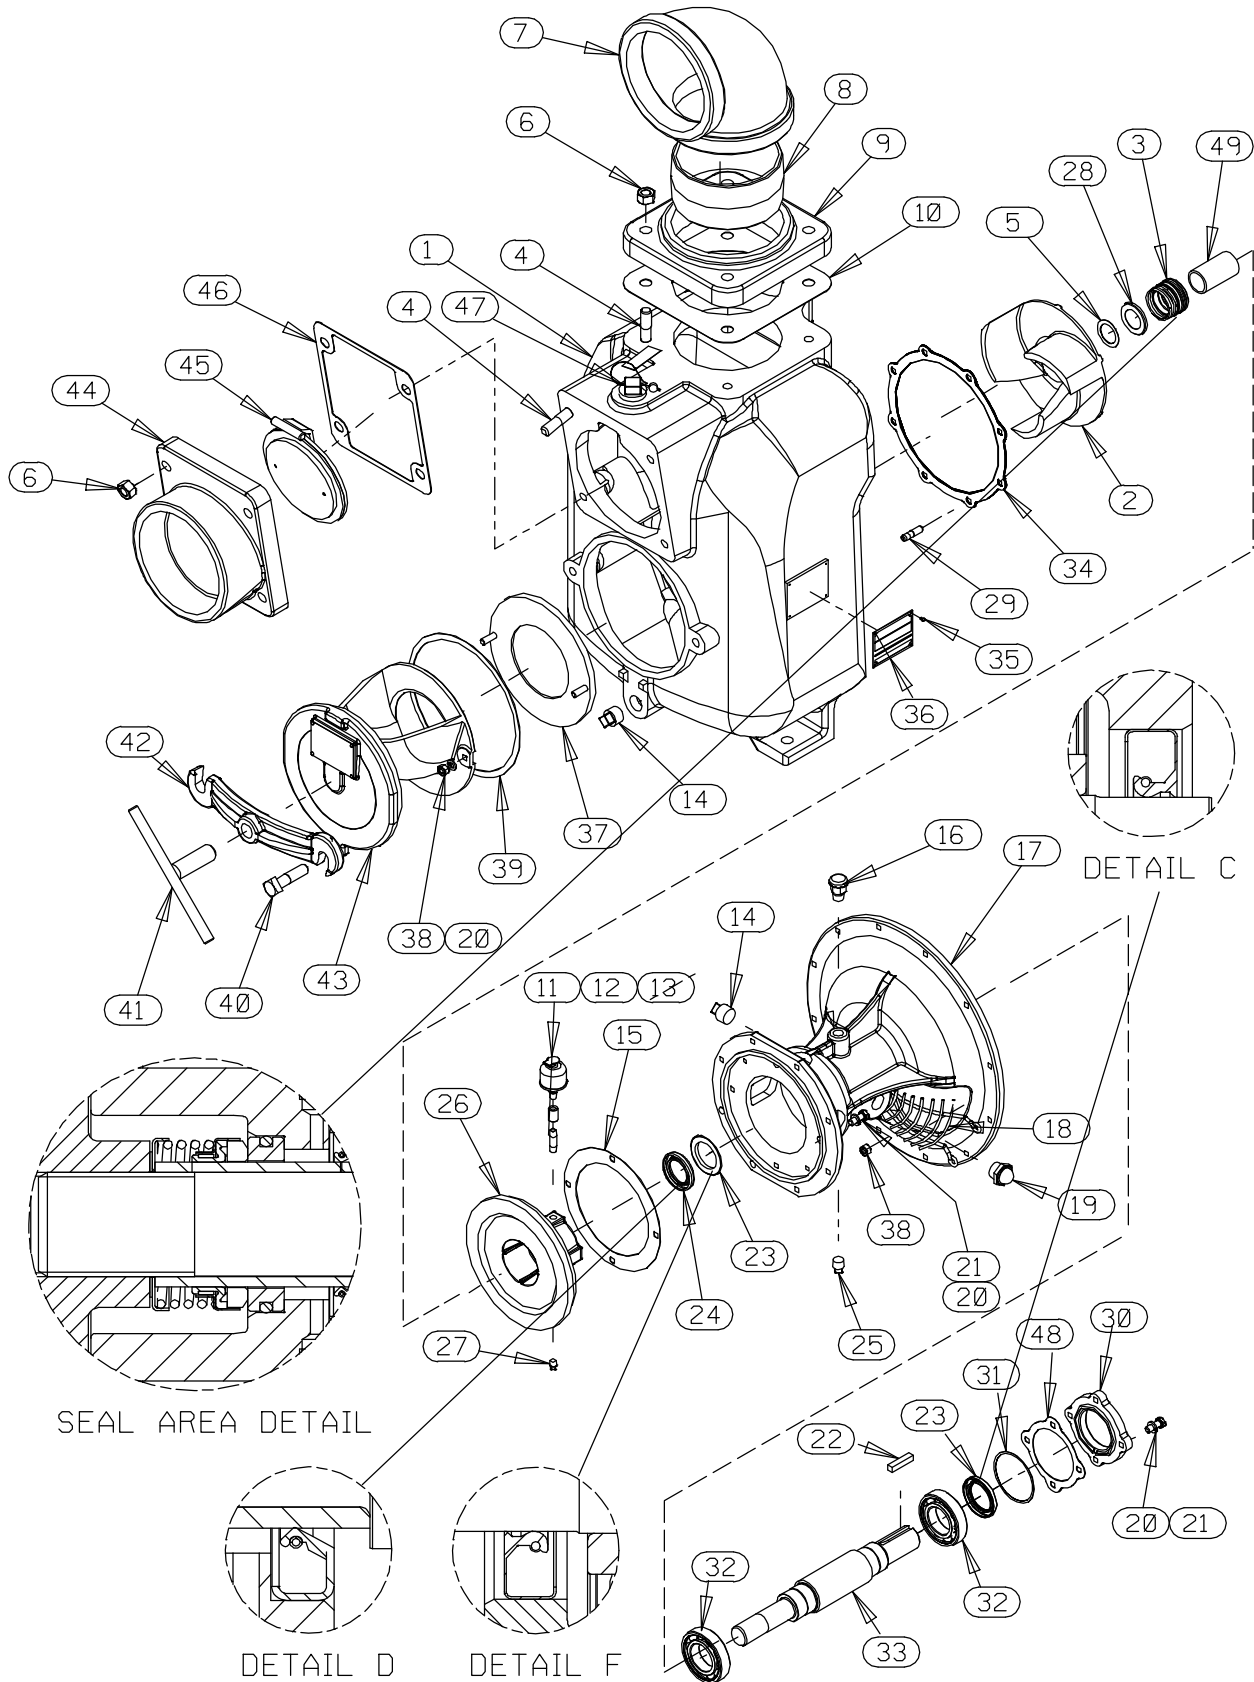

Figure 3. 16D60-(SAE 4/10) Pump End Assembly
(Figure 3)
### (Figure 3)
Disengage the hardware (6 and 7) securing the drive flange to the engine bellhousing, and remove the guards (29, Figure 3). Remove the hardware (not shown) securing the pump casing to the base. Separate the pump end and drive assembly from the engine by pulling the pump end straight away from the engine.
Screw one of the setscrews into the puller hole on the circumference of the bushing. As the coupling and bushing separate, remove the bushing, and slide the coupling off the shaft. Remove the shaft key (22, Figure 3).